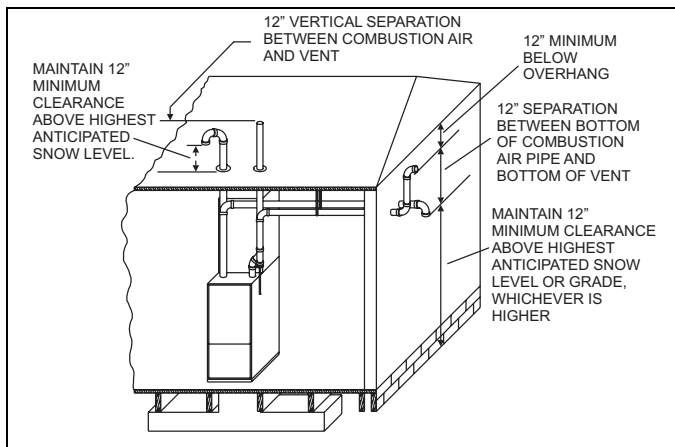

FIGURE 20: Termination Configuration - 2 Pipe
8. Sealed combustion air systems must be installed so the vent and the combustion air pipes terminate in the same atmospheric zone. Refer to Figures 20, 21, & 22.